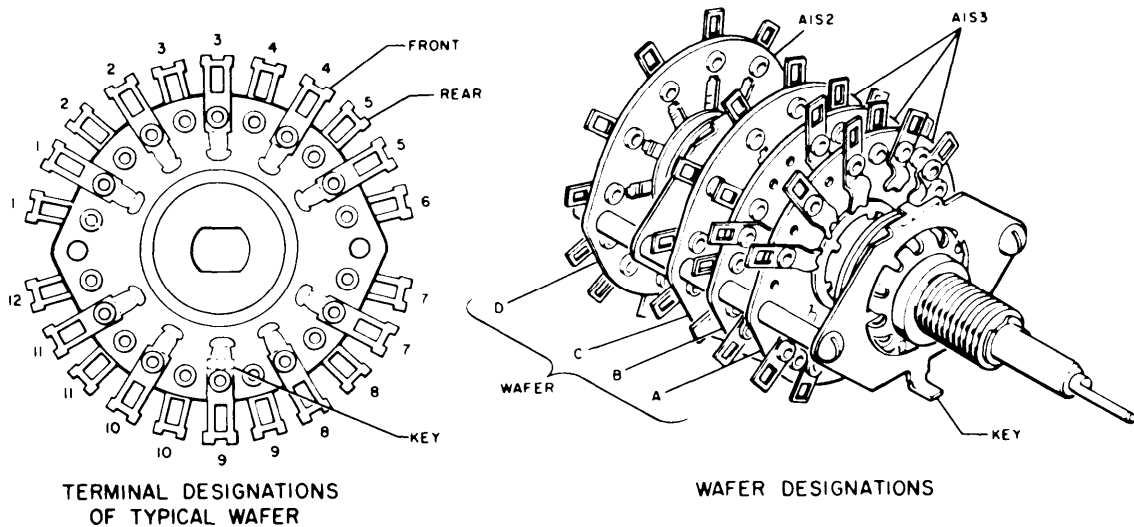

Figure 5-15. Time Base Switch A1S3 and STD FREQ OUT Switch A1S2, Wafer and Terminal Designations
(1) Perform the procedure of paragraph 5-51 to gain access to A1S2/A1S3.
(2) Refer to figure 5-15 for wafer and terminal designations.
(3) Disconnect the external leads from A1S2/A1S3 in the order listed in table 5-17. Code-mark leads to insure proper reassembly.